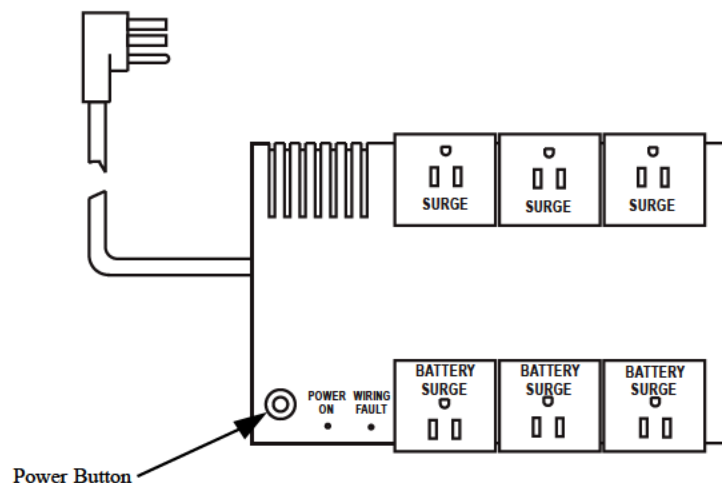

Figure 2-1
UPS See Figure 2-1
2. Unplug the CC from the UPS (see figure 2-1).
- Press the red button (figure 2-1) at the front left of the UPS. The UPS will beep once and a green LED will light to indicate it is on.